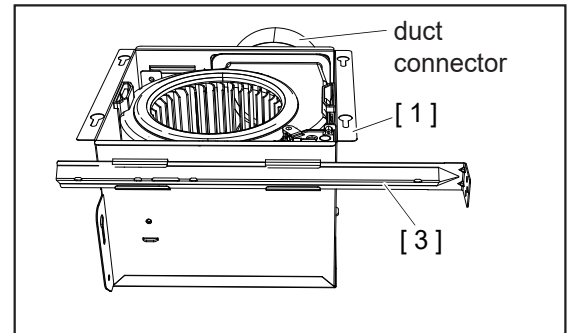

Fig 7
1. Insert one Long Bracket [3] to the slot at the backside of Fan Body [1] as figure shows. (Fig 7)